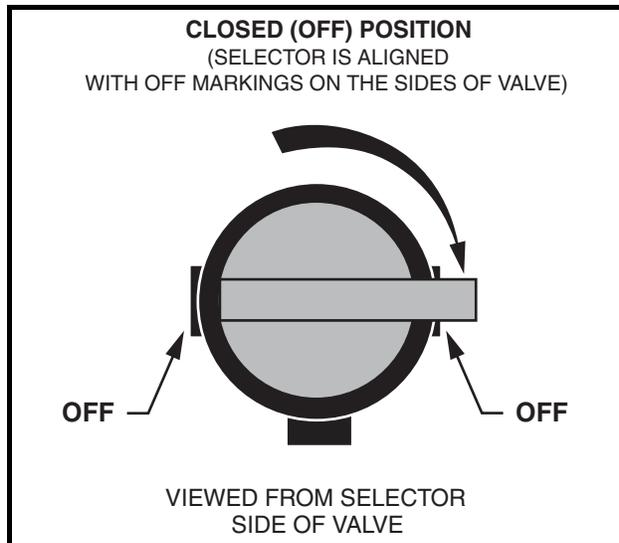

Figure 3-3 Fuel Shut-off Valve – Closed Position
- Turn fuel shut-off valve to closed (OFF) position (Figure 3-3, Page 3-3).
- 4.1. Place the Forward/Reverse handle in the NEUTRAL position and the neutral lockout cam in the MAINTENANCE position. Turn the fuel shut-off valve to the closed (OFF) position (**Figure 3-3, Page 3-3**) and run the engine until fuel remaining in the carburetor and fuel lines is depleted and the engine stalls. Return the neutral lockout cam to the OPERATE position.